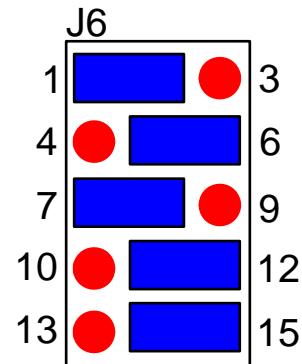

Figure 3. Default J6 Setup for 16-Pin Modem Chips
1. Set jumpers according to Figure 1, but change J6 to the arrangement shown in Figure 3 if an FS ISModem package is used.
1. Set jumpers according to Figure 3, but change J6 to the arrangement shown in Figure 3 if an FS ISModem package is used.